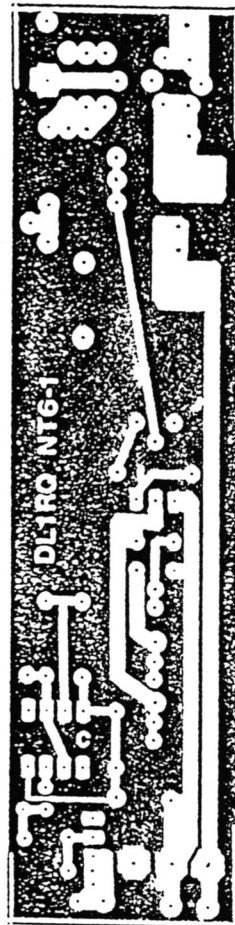

Fig.1.3 Power Supply and Control Module DL1RQ NT6-1
The height of the panel is laid out to match commercially-available side profiles (1). Figs. 1.3 to 1.6 show the printed circuit board DDLRQ NT6-1 and the component overlay in drawing and photographs.